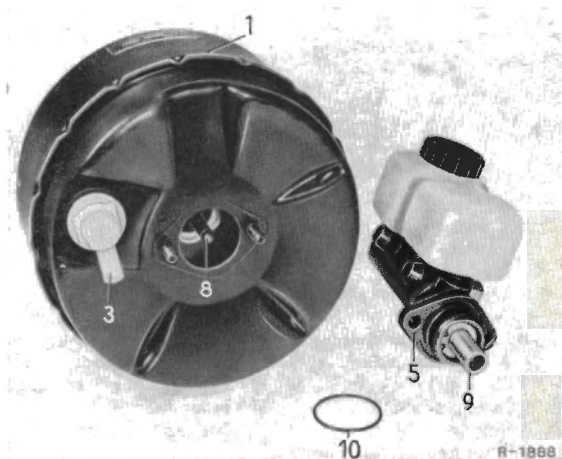

Fig. 42-3a/13
7. Put the O-ring (10) in the groove and attach the tandem master cylinder (5) to the power brake (1). Tighten the hexagon nuts with a torque of 1.8–2 mkg (Fig. 42-3a/13).